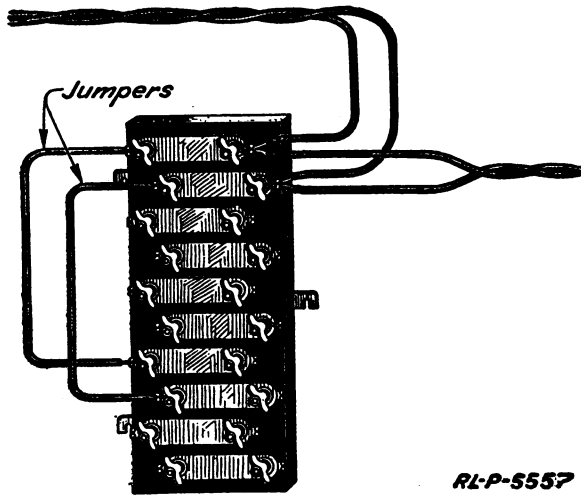
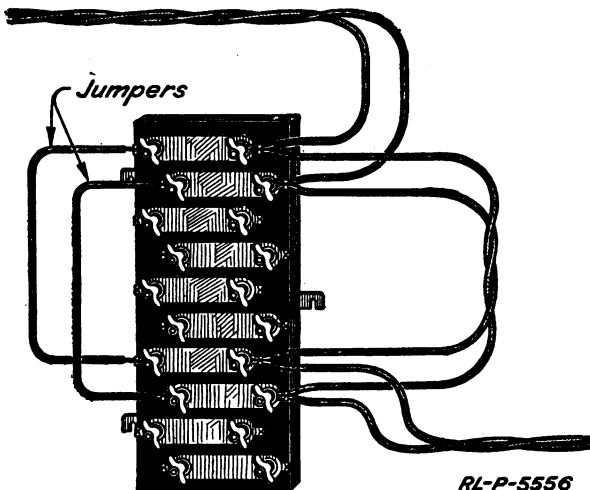

Fig. 32.—Establishing a field test station, first operation
Fig. 33.—Establishing a field test station, second operation
2. Take the lowest-numbered circuit and remove about 2 inches of insulation from the wire which has the tracer thread in it. Make a loop in the bare part of the wire and attach it to the upper right-hand binding post on the terminal strip marked "A." (See Fig. 32.) Remove about 2 inches of insulation from the other wire of the same circuit and attach this to the next lower binding post.
3. Measure off sufficient length of the wire leading forward to reach the pair of binding posts marked "B" (Fig. 32) at the bottom of the terminal strip which has been previously jumpered to the top pair. At this point remove about 2 inches of insulation from the wire which has the tracer thread in it and attach to the top binding post of the pair marked "B." Now remove about 2 inches of insulation from the other wire and attach it to the other binding post. The circuit, though still continuous, is looped into the two pairs of binding posts. (See Fig. 33.)
4. Now cut away the loop of the wire between the two pairs of binding posts, marked "C" in Figure 33. Cut the wire off close up to terminal strip.